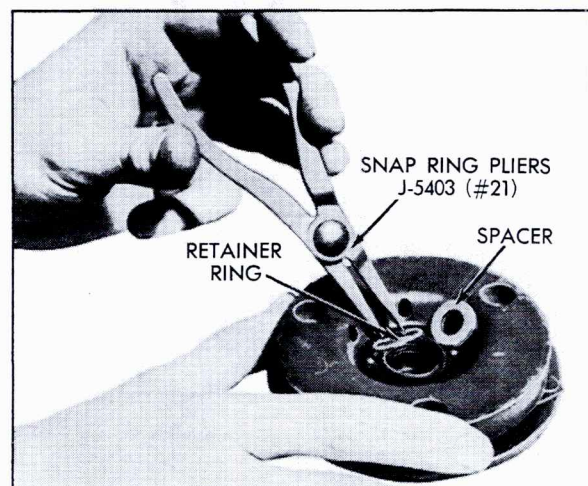

Fig. 1-39 Removing Hub Retainer Ring and Spacer
5. Remove hub retainer ring using Snap Ring Pliers, J-5403 (#21), and then remove hub spacer, Fig. 1-39.